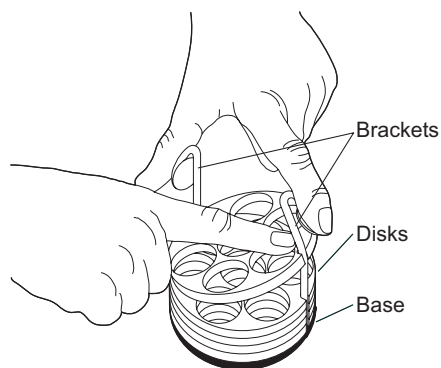

Figure 7. Assembling a Multi-Disc Adapter
1. Slide the U-shaped bracket into the grooved, black rubber adapter base (see Figure 7). Modified bracket 343369 is required if you are using Aeroseal Covers.